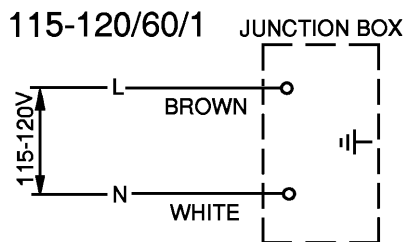

Fig. 2
- The white lead must be connected to the neutral conductor of the power source. Miswiring results in severe damage to the icemaker. See Fig. 2.